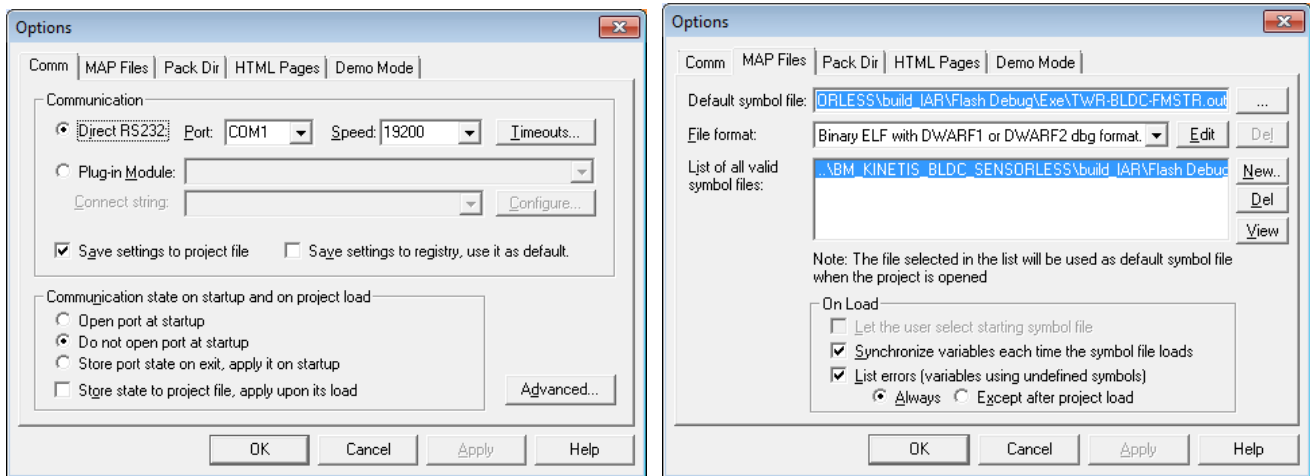

Figure 4. FreeMASTER configuration
9. Set up the COM port number in the FreeMASTER project options. The speed of the port should be 19200. (See Figure 4.)